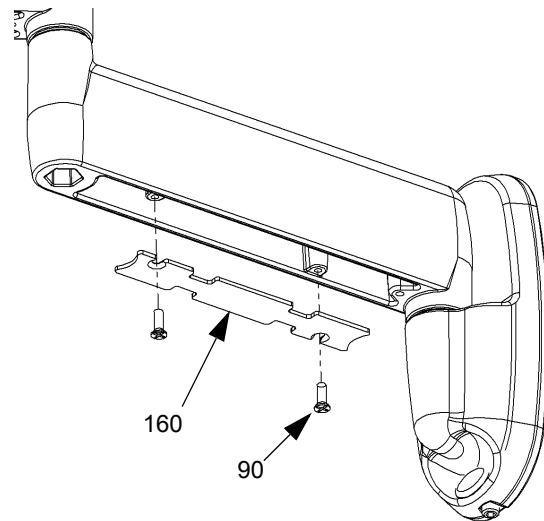

Figure 11: Cable Management
2. Secure cables using cover plate (160) and two screws (90) (see Figure 11).